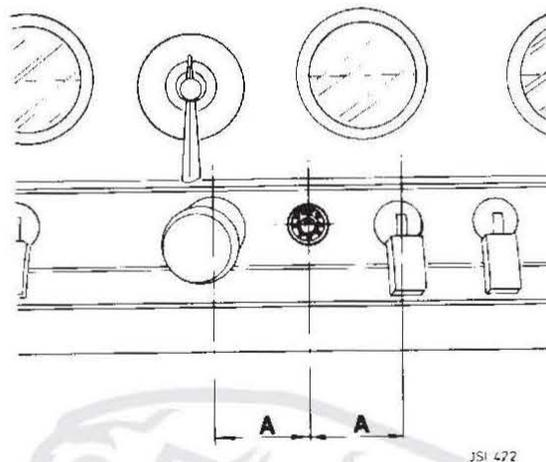

FIG 4
1. Drill a 12 mm (0.472 in) diameter hole through the switch panel, midway between the cigar lighter and the fuel tank changeover switch (Fig 4) and locate the choke warning light. Care must be taken when drilling the hole in the trim panel to prevent damage.